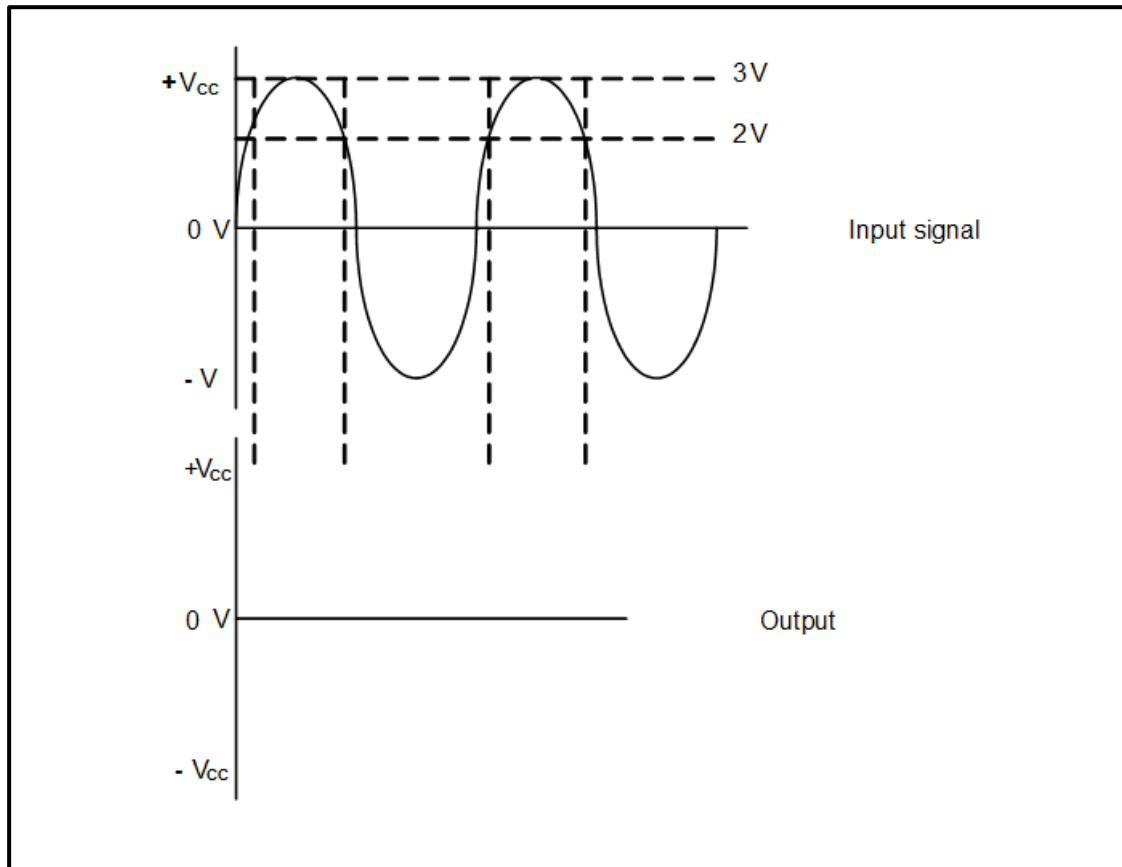
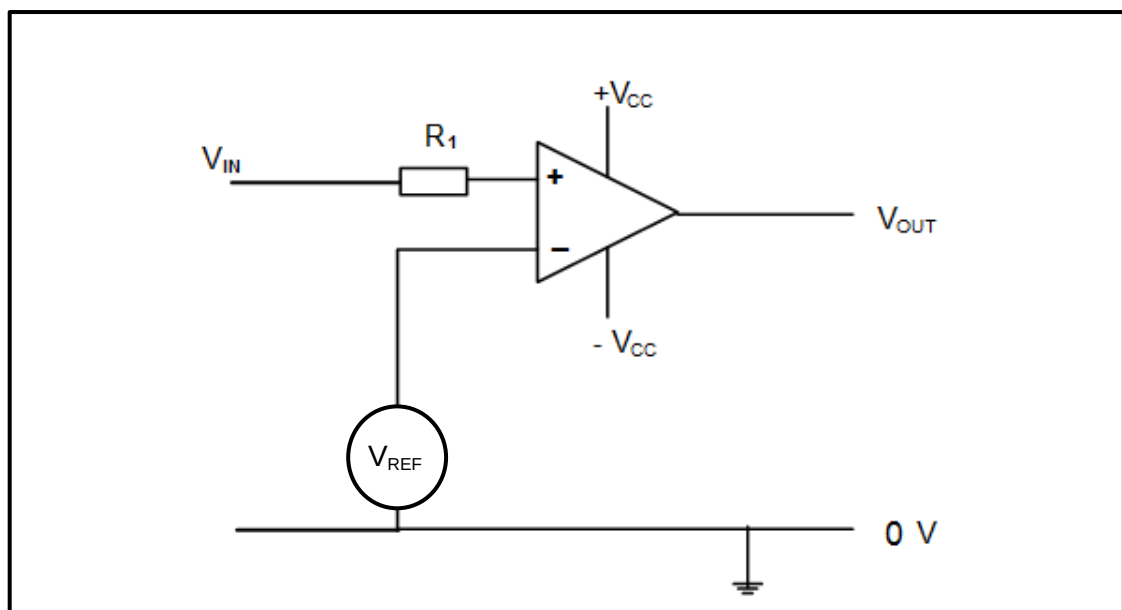

FIGURE 7.3.1: INPUT TO A VOLTAGE COMPARATOR OP AMP
FIGURE 7.3.2: VOLTAGE COMPARATOR OP AMP
- 7.3 FIGURE 7.3.1 below shows the input to a voltage comparator op amp in FIGURE 7.3.2. Draw the input signal and directly below that, on the same y-axis, draw the output signal.